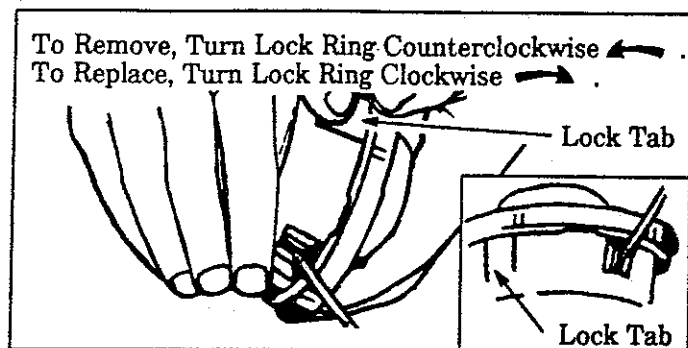

Figure 17
- a. Hold the Trimmer Head as shown in Figure 17. Press the Lock Tab and turn Lock Ring as shown in Figure 17.
- f. Align the Lock Ring over the three Catches on the Hub. Push the Lock Ring down on the Hub and turn as shown in Figure 17.